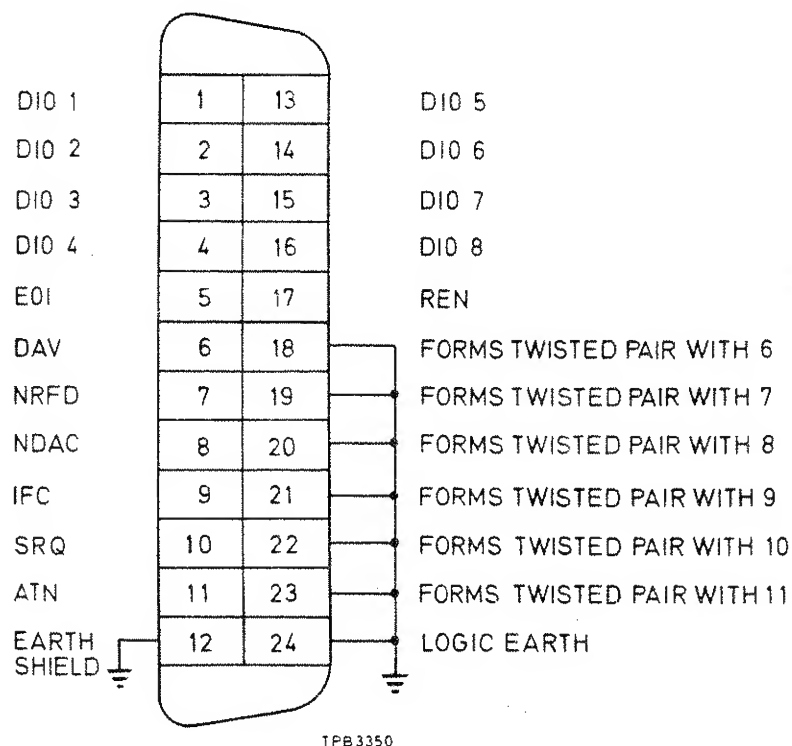

Fig. 8 GPIB connector contact assignments
58. The contact assignment of the GPIB cable connector and the device connector is as shown in Fig. 8 below.